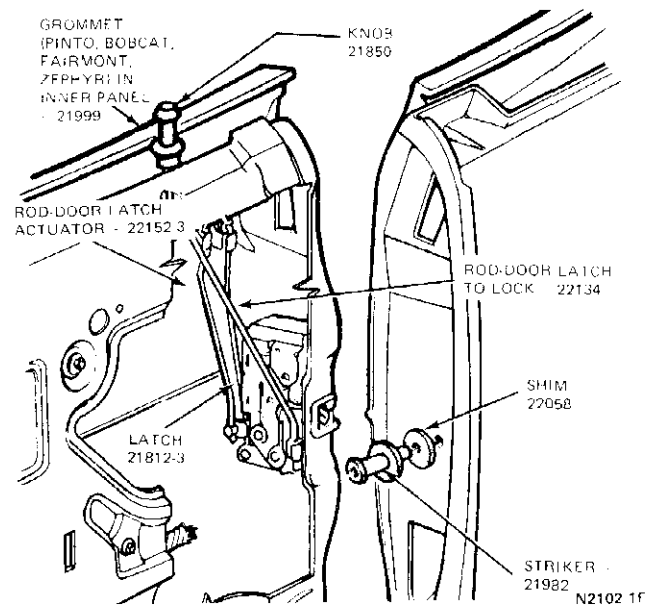

FIG. 16 Door Latch and Striker Installation—Pinto, Bobcat, Fairmont and Zephyr
3. Check all rod connections against the appropriate illustration (Figs. 16 thru 24). Correct any misconnected or loose connections and check operation before replacing parts.
2. Remove the attaching screw or poprivets (see appropriate Figs. 16 thru 23) and disengage the attaching tab.
2. Disconnect the lock control-to-door lock cylinder rod at the lock cylinder arm (Figs. 16 through 23).